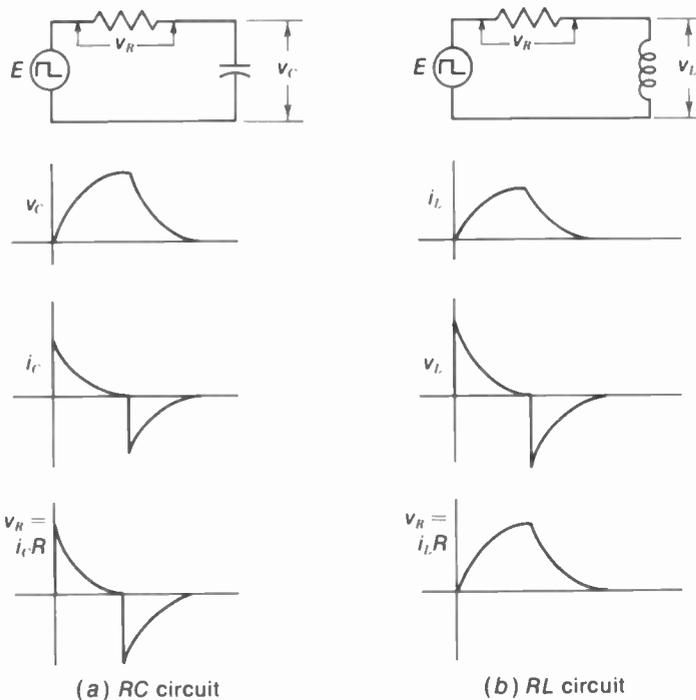

FIGURE D-2
***L/R time constant.*** When voltage is applied to an inductive circuit, the current cannot attain its steady-state value instantaneously but must build up exponentially because of the self-induced voltage across the inductance. This rise of inductive current corresponds to the rise of voltage across a capacitor (see Fig. D-2). The transient waveshapes are exactly the same, with current in the inductive circuit substituted for capacitor voltage.